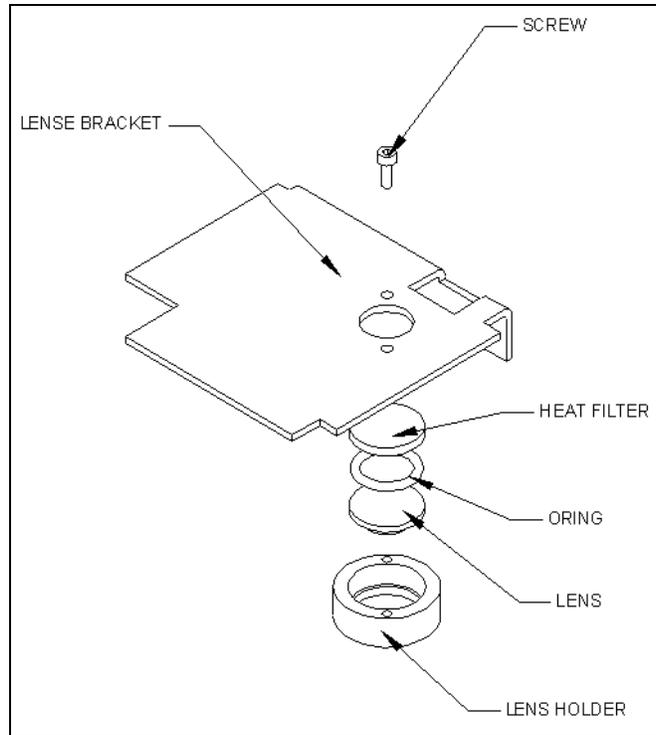

Figure 11-26 Taking the Lens Assembly Apart
- 1 Remove the 2 M2 x 6mm socket head cap screws from the lens-retaining ring and remove from bracket (Figure 11-26).